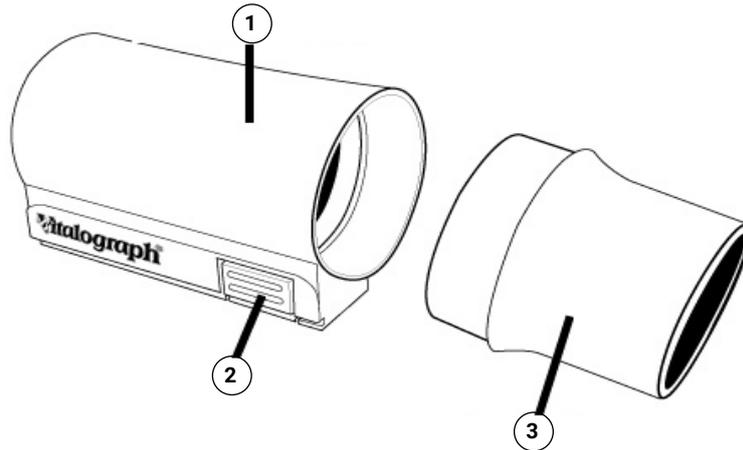

Figure 2: Flowhead Assembly
2. Referring to Fig. 2: Flowhead Assembly, replace the flowhead cone onto the flowhead body.